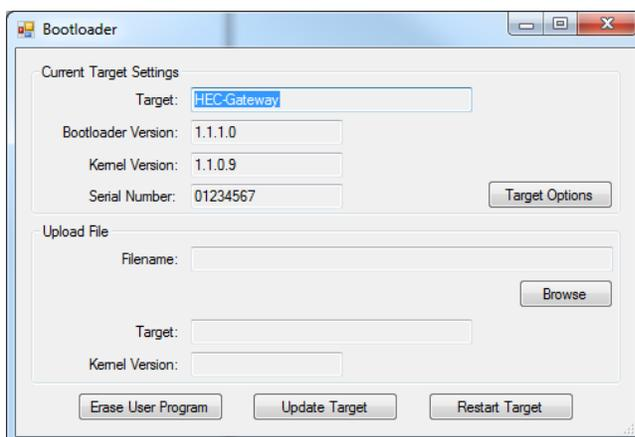

Figure 2-18 - Bootloader Screen
7. Using the menu, click **PROJECT** then **BOOTLOADER**. You may see a window momentarily while EZ LADDER connects to the HEC-Gateway device bootloader. See Figure 2-18.